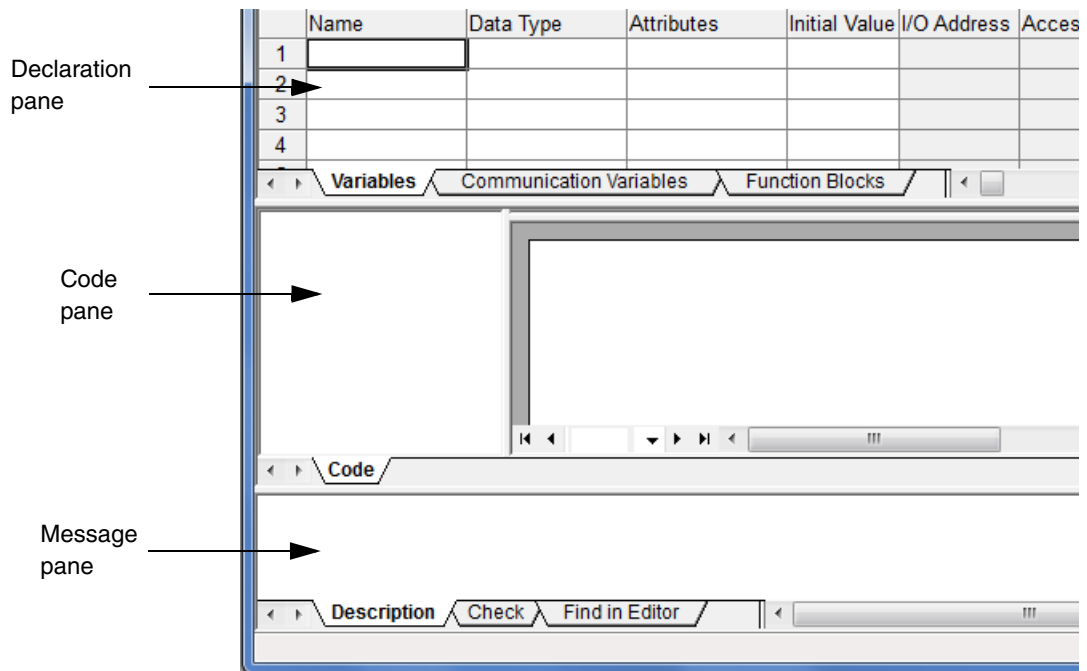

Figure 15. The editor for Program2.
- The program editor is divided into three panes: the declaration pane, the code pane, and the message pane. (See Figure 15).